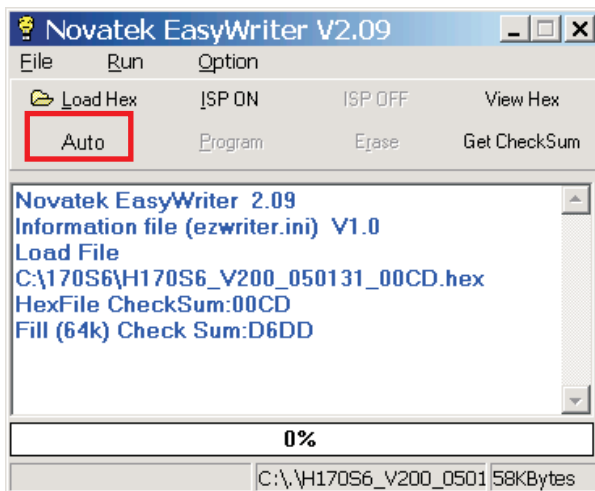

Fig. 10
4. Press the AUTO to running program , the firmware be updated as shown in Fig. 10~11.